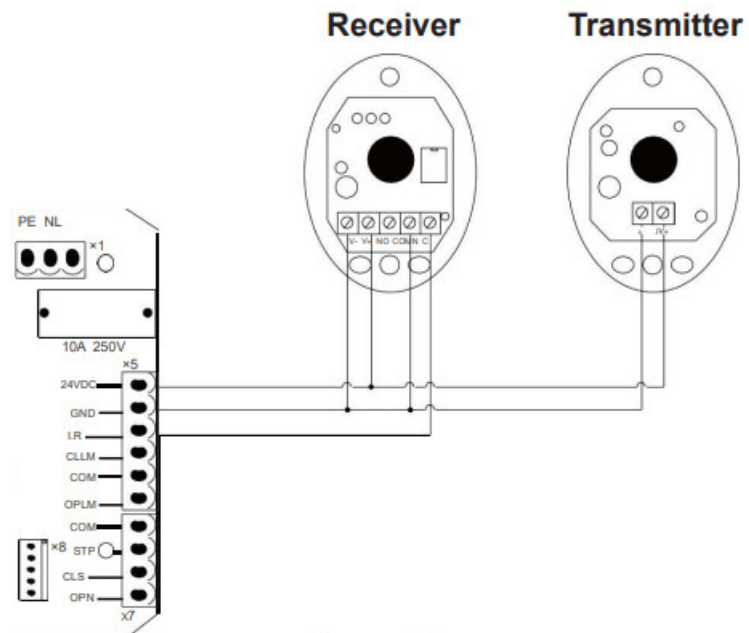

Figure 23
2. Connect the sensors' wiring to the control board according to Figure 23. The sensors' V+ pins should be connected to the 24V pin on the board; their V- pins and the receiver's COM pin should all be connected to the GND pin; and the receiver's NC pin should be connected to the IR pin.
3. Install the infrared sensor set (W) near your gate at the positions prepared for them. If possible, cover or otherwise protect them from direct sunlight.